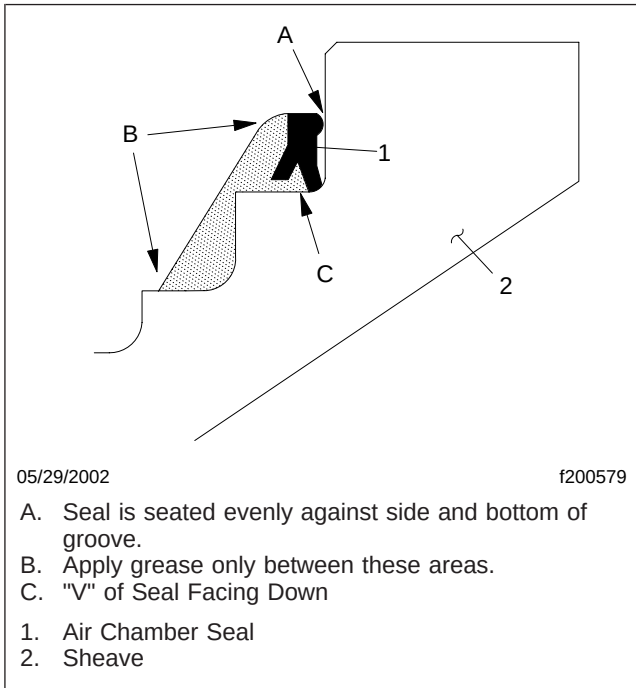

Fig. 14, Correct Installation of Air Chamber Seal (cross-section view)
12. Install the air chamber seal into the sheave. Be sure the seal is evenly seated against the side and bottom of the groove surfaces, and the "V" of the seal is facing down. See Fig. 14.